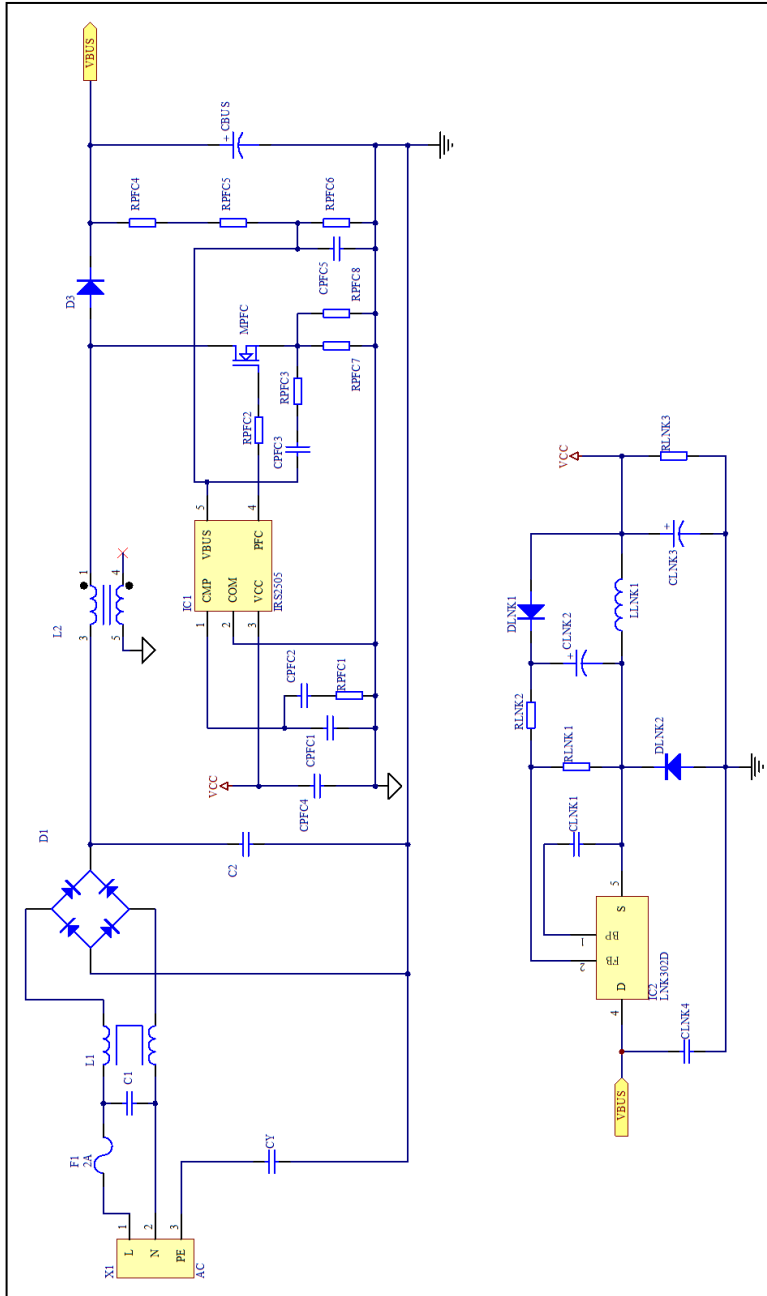

Figure 4.1: IRPLHD2A Circuit Schematic 1
the buck high-side and full-bridge high and low-side output drivers are activated. The low voltage power supply is realized with buck converter circuit utilizing the Link Switch LNK302D (Figure 4.1). Once the voltage on VCC reaches the start-up threshold (UVLO+), voltage on VSENSE pin is above VOV threshold and the voltage on RST pin is less than 1.5V, the IC turns on and the full-bridge oscillator (CT) and gate driver outputs (HO1, LO1, HO2 and LO2) begin to oscillate. During UVLO mode, the full-bridge and buck are off, the ignition timer and clock are off, the fault and good counters are reset, and the fault latch is reset.